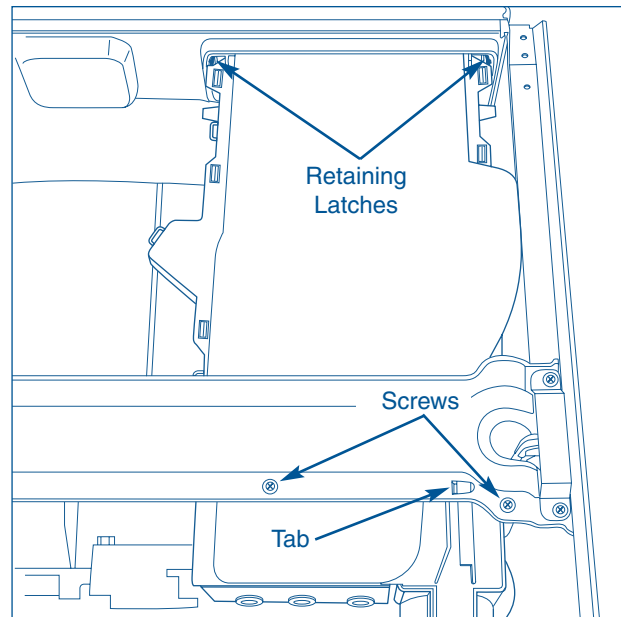

Figure 4-39.
6. Extract the two screws securing the detergent cavity dispenser to the center brace. (See Figure 4-39)
7. Release the (2) retaining latches, one on each side, locking the housing to the console mounting panel. (See Figure 4-39)
8. Slide the housing back until the tab of the top center brace release and the housing drops down. (See Figure 4-39)